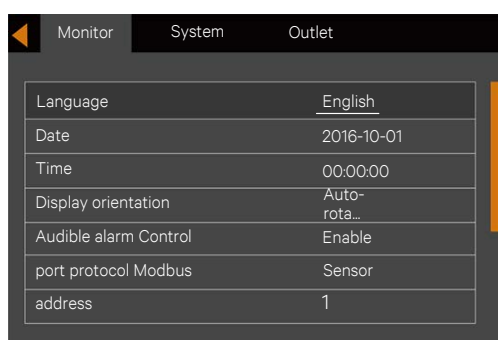

Figure 5-13 Changing Language
4. Press the  or  key to select your required language, then press the  key to confirm it. At this point, the LCD information will be the displayed in your selected language. See Figure 5-13.